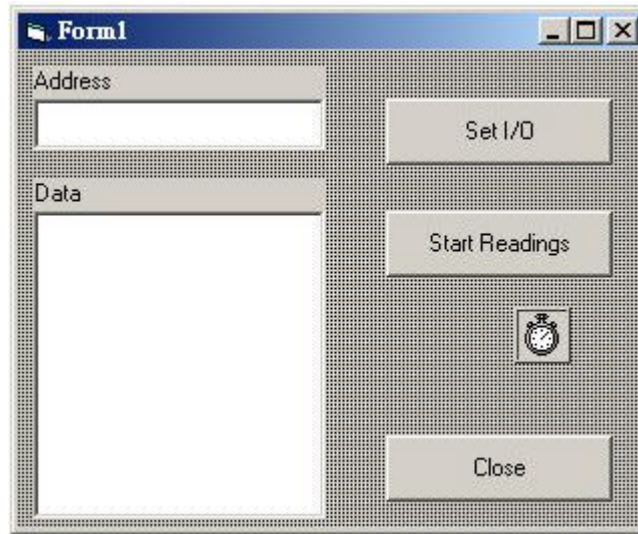

FIGURE C.1. The application will use a number of standard controls.
2. After you create the application shell, lay out the Form1 as shown earlier in Figure C.1.
The application you are going to build today will have a number of controls on a dialog window, as shown in Figure C.1. When the user selects clicks the Start Readings button t, the routine that sets up the meter will run. Setup M3500A to return an SRQ event when readings are complete.